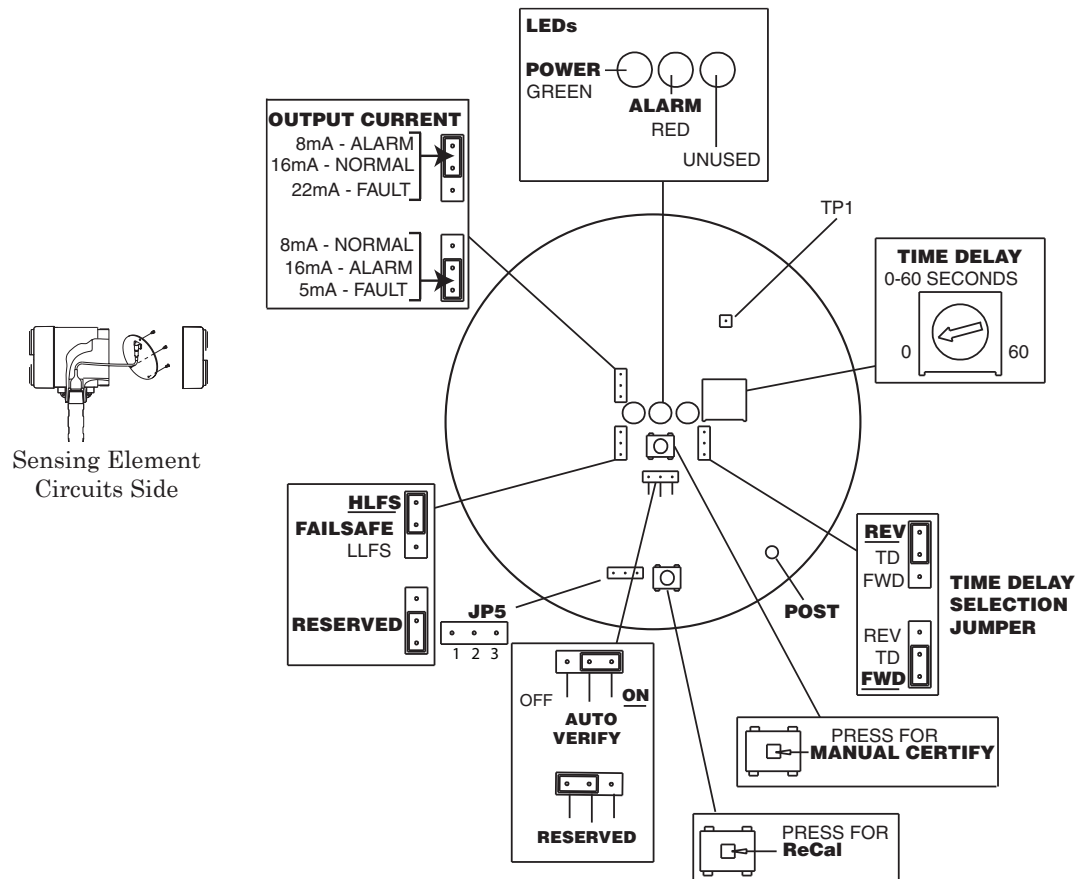

Figure 2-4
The circuit board is located on the sensing element/circuit side of the housing (marked on label). Remove the housing lid to access the status LEDs, time delay adjustment, and configuration jumpers. See Figure 2-4.
After the IntelliPoint has been installed with the measured material below the sensing element, press and hold the "ReCal" button (shown in *Figure 2-4*) for five (5) seconds. After five seconds, the two LED's flash for sixty seconds before reset occurs.